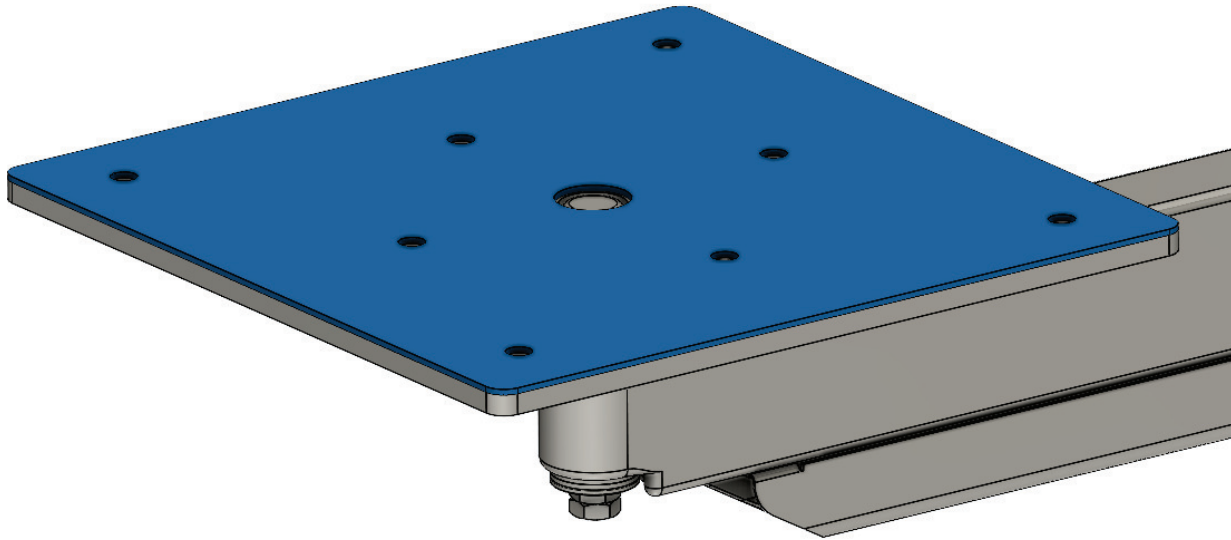

Figure 2. 106-407 Leveling Plate
1. Begin by using the 106-407 Leveling Plate (Fig 2.) to mark the outer four drill hole locations and the inner four hole locations unless the cabinet is pre-drilled with inserts